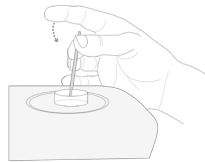

Figure 7. Cover the open end of the OPS with index finger
- 5) Immediately cover the open end of the OPS with your index finger (refer to Figure 7). The medium will flow out from the OPS as a result of the increased pressure of the warming air inside the OPS. If the medium remains in the straw, use a 10 µL micropipette to expel air into the wide end of the OPS to eject the liquid.